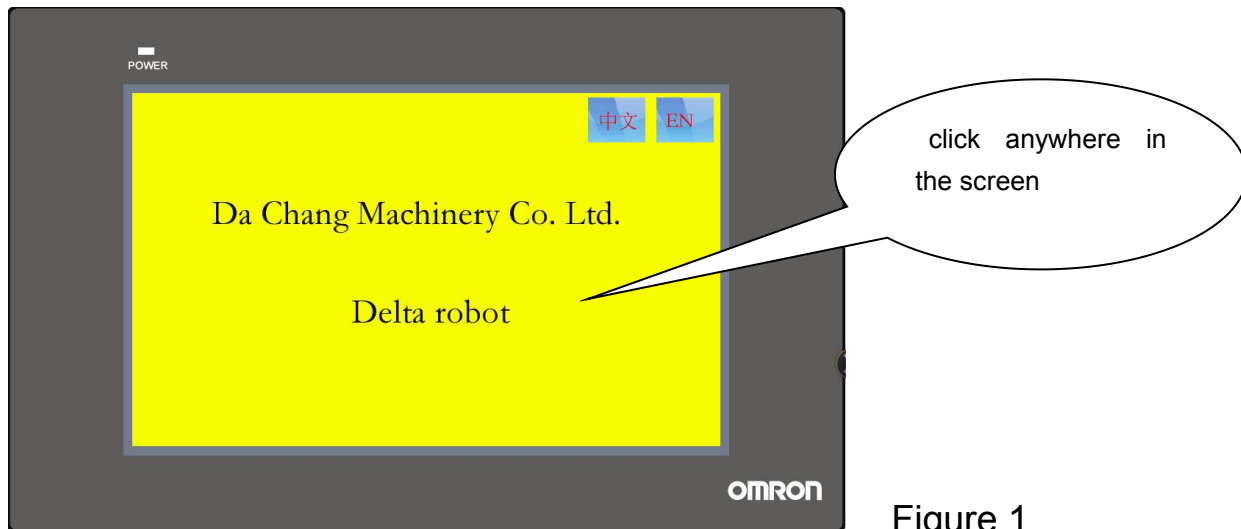

Figure 1
1. As show in figure 1 , click 【Delta robot 】 anyplace in the screen to enter Figure 2 to monitor the program.